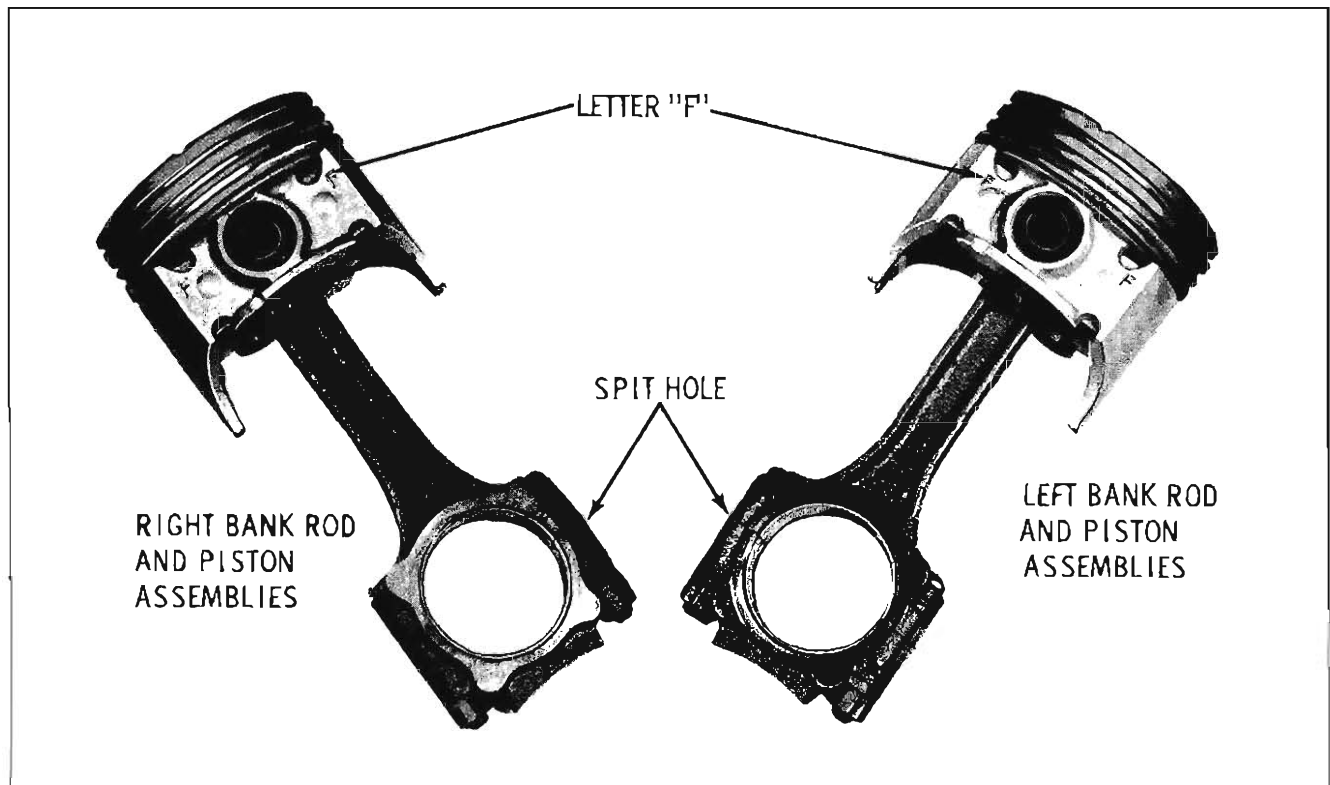

Fig. 3-436 Piston and Connecting Rod Assembly
2. Place piston on Tool BT-6408-1 with letter "F" facing up. Refer to Fig. 3-436 for correct rod and piston assembly.